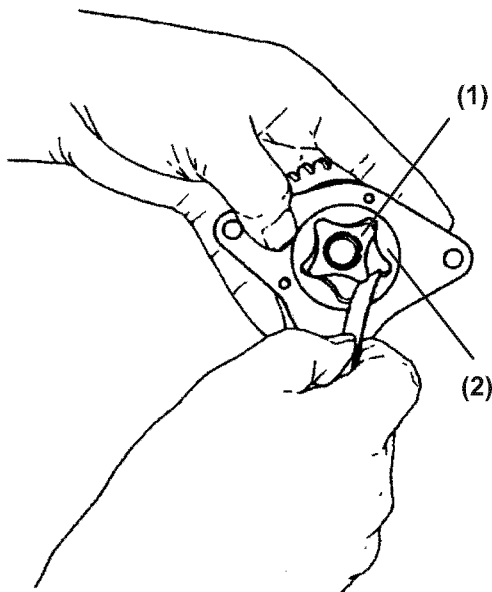

Figure 9-18
Inspect the tip clearance between the outer and inner rotors. To inspect this, insert a feeler gauge between the inner rotor tooth tip (Figure 9-18, (1)) and the outer rotor tooth tip (Figure 9-18, (2)), and measure the clearance.